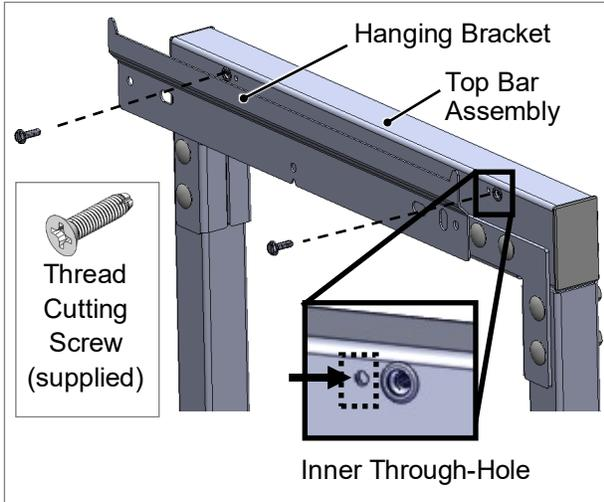

Fig 9. Attach the Hanging Bracket (M-Series Models)
Using two (2) Thread Cutting Screws (supplied), attach the hanging bracket (supplied with boiler) to the *inner* through-holes on the left and right sides of the Top Bar Assembly (Fig 9).